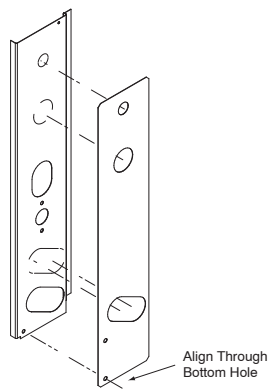

Fig. 9 - Use Header Plate as Template
6. Cut new holes for liquid, suction and drain connections in the existing header panel. Use **new header plate** supplied with new coil as template to locate holes. Align bottom of new header plate to the bottom of the header panel as indicated in Fig. 9.